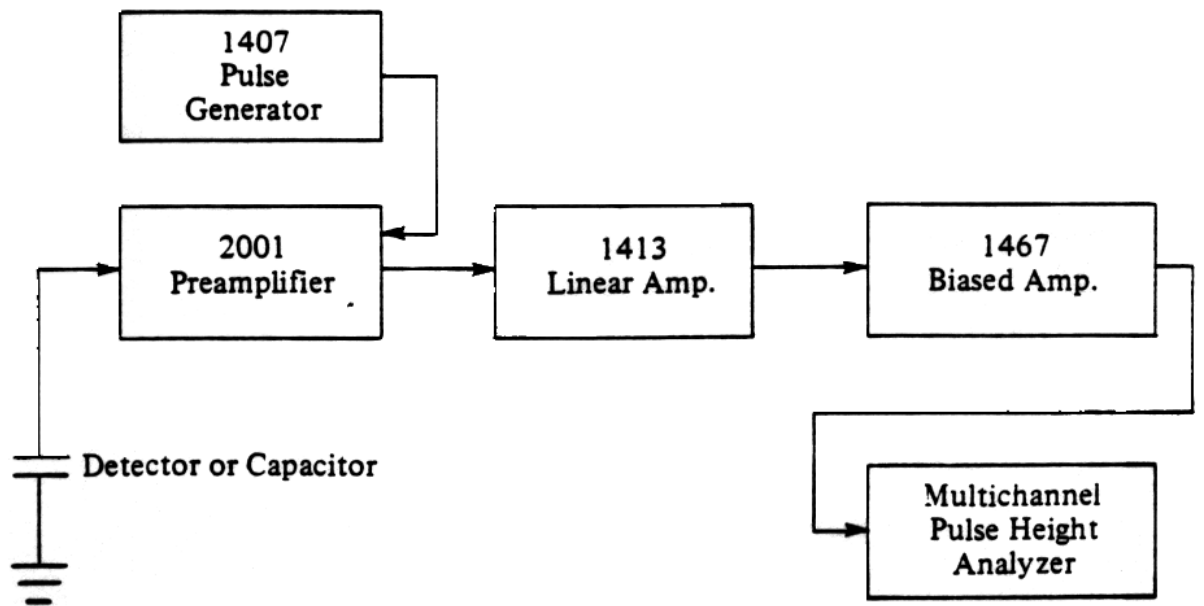

Figure 5-2. Measuring Resolution with a Pulse Height Analyzer
1. Connect capacitor, preamplifier, amplifier, biased amplifier, pulser, and multichannel analyzer as shown in Figure 5-2.